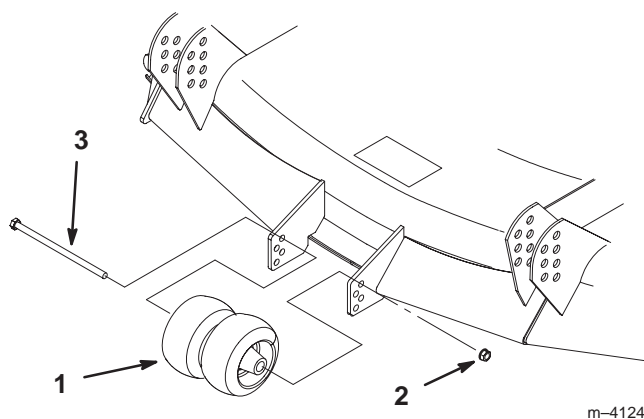

Figure 11
1. After adjusting height-of-cut remove bolt and nut (Fig. 11).
2. Select a hole position so the gage wheel is $\frac{3}{8}$ " (9.5 mm) off the ground for the height-of-cut to be used (Fig. 11).
3. Reinstall the bolt and nut (Fig. 11).